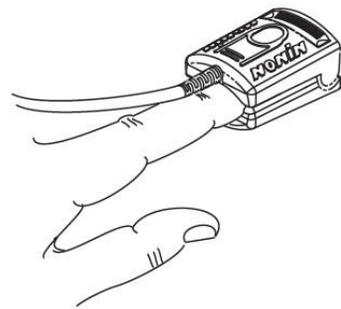

Figure 3 - Insert finger into sensor
2. For the best results when using the sensor for data collection, secure the sensor cable independently from the sensor with medical tape, preferably around the base of the finger. Make sure that the tape securing the cable does not restrict the blood flow (see Figure 3).